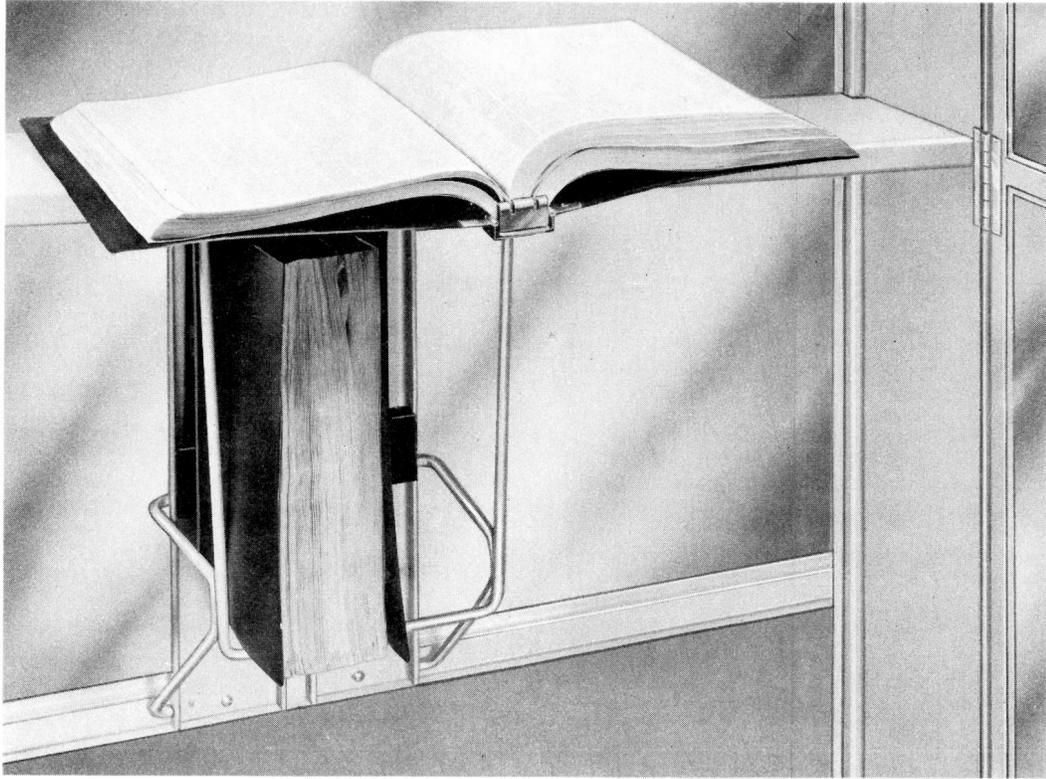
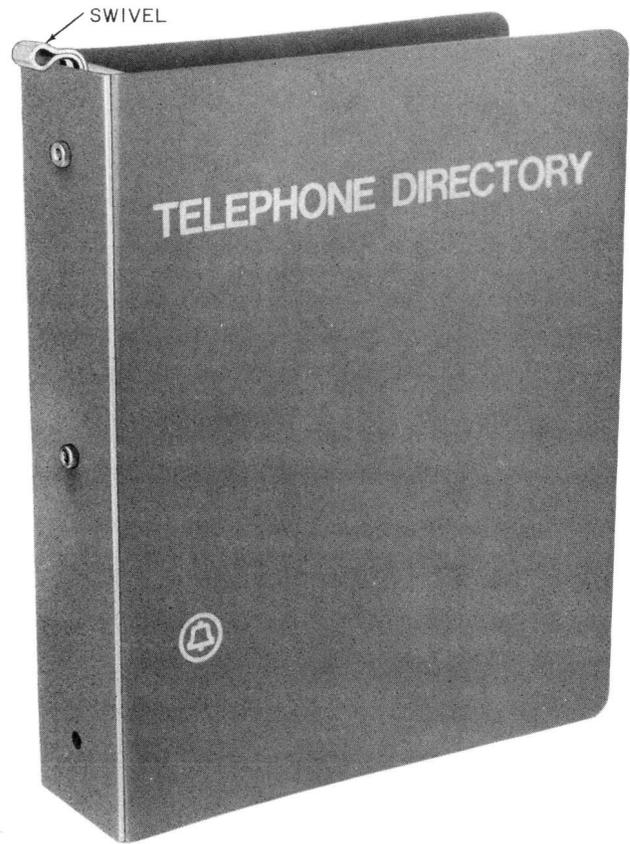

Fig. 17—Directory Installation in KS-19425, List 16 Directory Rack
Fig. 19—Universal Binder With Swivel
**4.06** Figure 17 shows a double directory installation. This type of installation may be placed on both the back and side walls for maximum usage of four directories. When only one directory is
**4.11** Binders can also be obtained with a swivel (Fig. 19), attached to the backbone with a No. 10-32 by 5/16 BHM screw (Fig. 20). This swivel permits usage with a KS-19425, List 16 directory rack (Fig. 17).